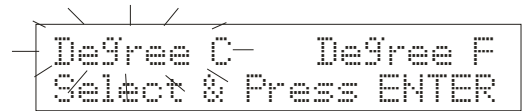

Figure 86
4. Press  $>/CAL$  to toggle between *Degree C* and *Degree F*. The unit selected will flash. See **Figure 86**.